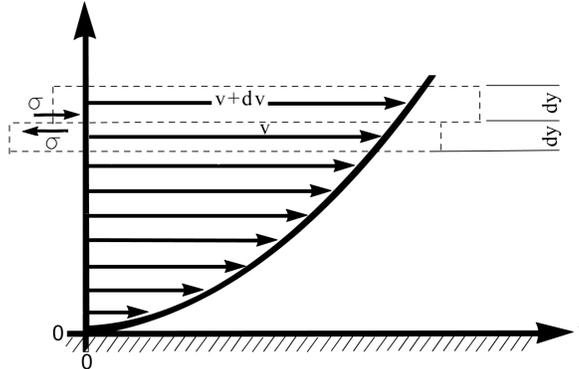

Figure 1-3. Shearing stress in a moving fluid
Viscosity is the property associated with a fluid resistance to flow. Viscosity is the result of two phenomena: (1) intermolecular cohesive forces and (2) momentum transfer between flowing strata caused by molecular agitation perpendicular to the direction of motion. Between adjacent strata of a moving Newtonian fluid, a shearing stress, σ , occurs that is directly proportional to the velocity gradient or shear rate, Γ (see Figure 1-3). This is expressed in the equation: